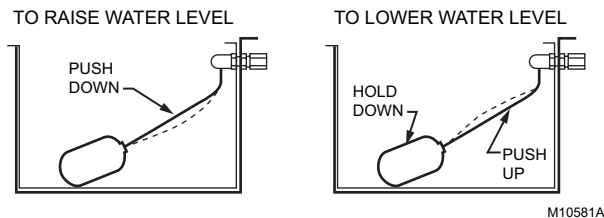

Fig. 6. Adjust water level.
3. Adjust the water level in small increments. Raise the water level by pushing down on the center of the float arm. Lower the water level by pressing the float down with one hand and pulling up on the center of the float arm with the other hand. See Fig. 6.
- c. Adjust the water level in small increments. Raise the water level by pushing down on the center of the float arm. Lower the water level by pressing the float down with one hand and pulling up on the center of the float arm with the other hand. See Fig. 6.